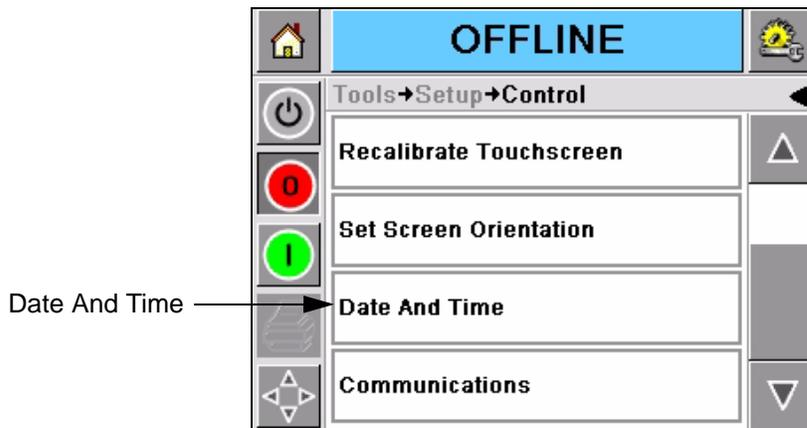

Figure 5-26: Control Page
- 1 Navigate to *Tools > Setup > Control* from the *Home Page*. The *Control* page appears (Figure 5-26).
- 2 Select the *Date and Time* from the list displayed (Figure 5-26).